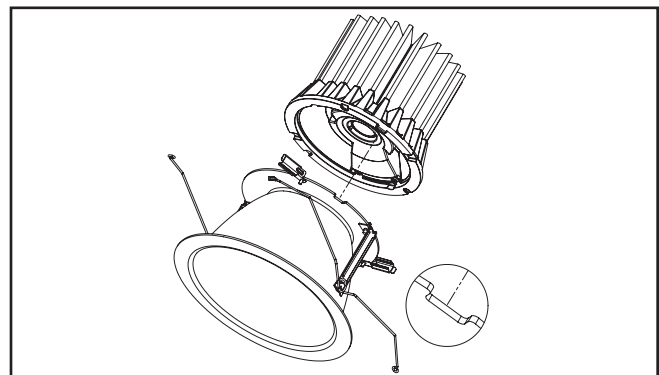

Figure 5
3. Insert LED engine on to trim assembly. Align post on LED engine with slot on trim assembly (Figure 5.).